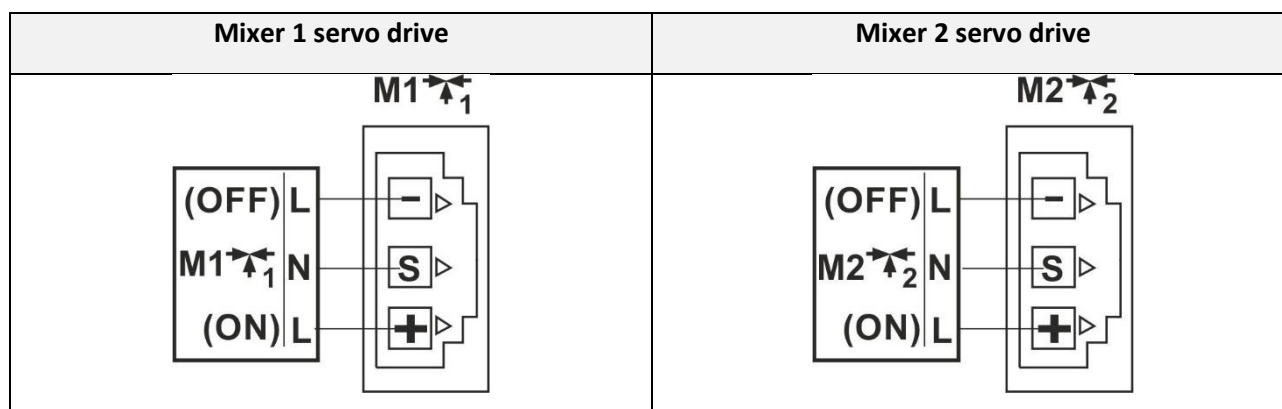

Figure 23. Wiring diagram of Mixer servo drive
- connect the Mixer drive with the controller via the connector on the left wall of the switchboard to the controller (see Figure 23) according to the technical documentation of the actuator manufacturer. Pay attention to the correct designation of the wires for opening and closing the valve.